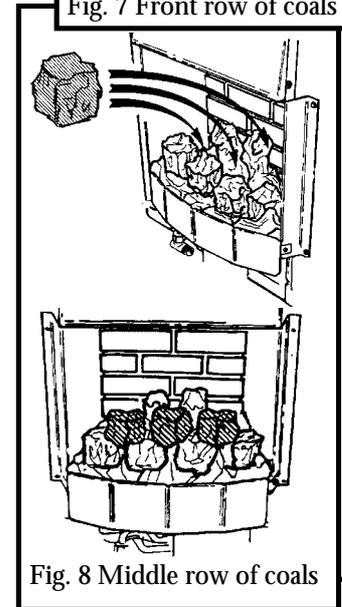

Fig. 8 Middle row of coals
**4.2** Place the three remaining medium size coals behind and approximately midway between each of the coals in the front row (See figure 8).